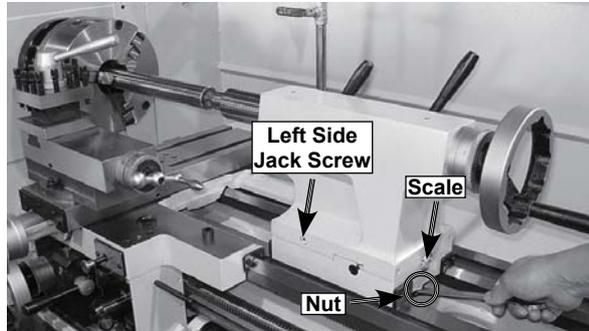
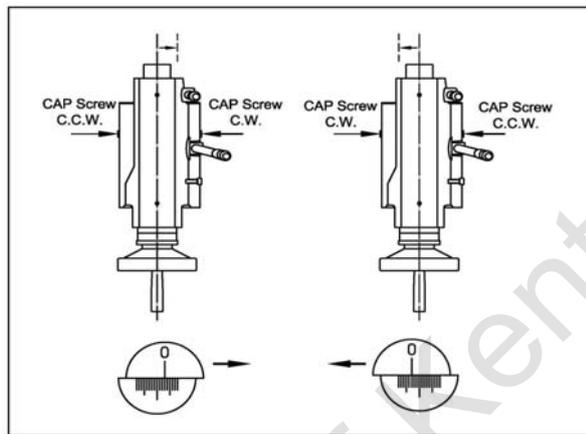

Figure 35. Tailstock offset adjustments.
Figure 36. Jack screw adjustment verses tailstock movement.
- Loosen two nuts of bottom, adjust the left and right jack screws until the scale (Figure 35) indicates the offset you want. See Figure 36 for adjustment direction.